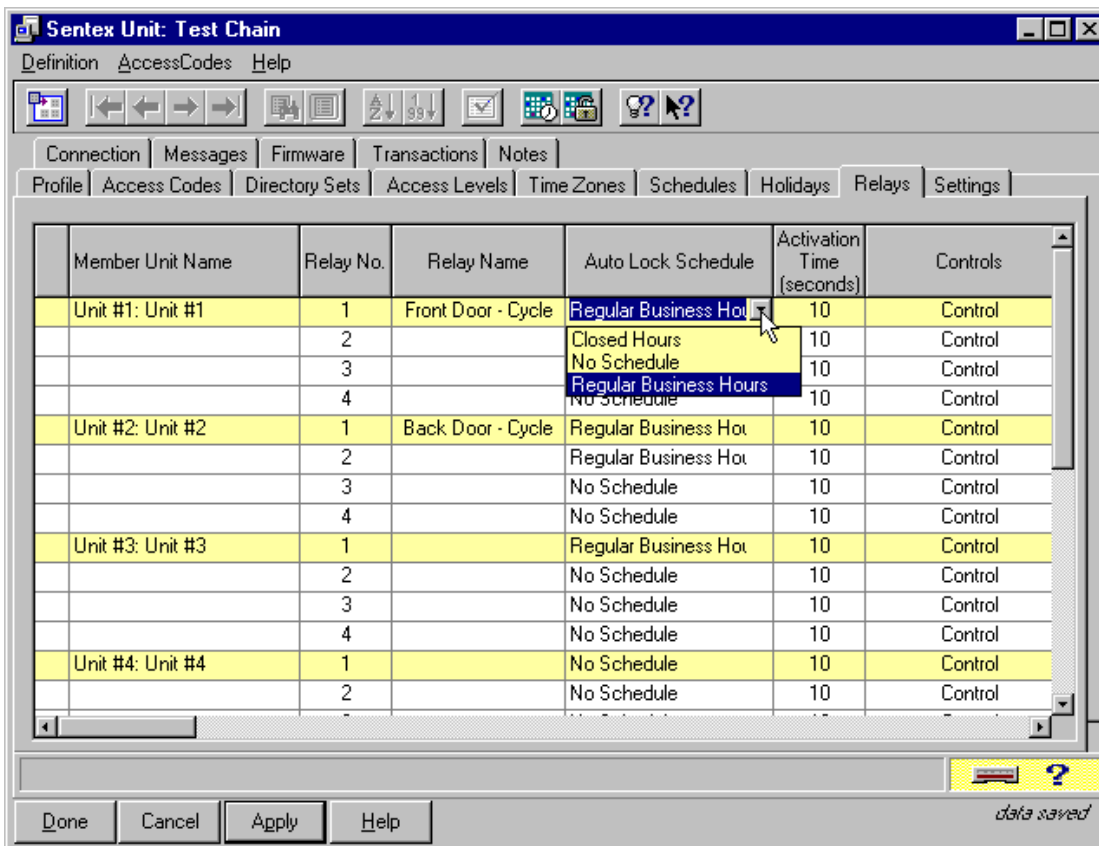

Figure 28: Relays Page
- 1 At the Sentex Unit Definition window, click the **Relays** tab. See Figure 28.